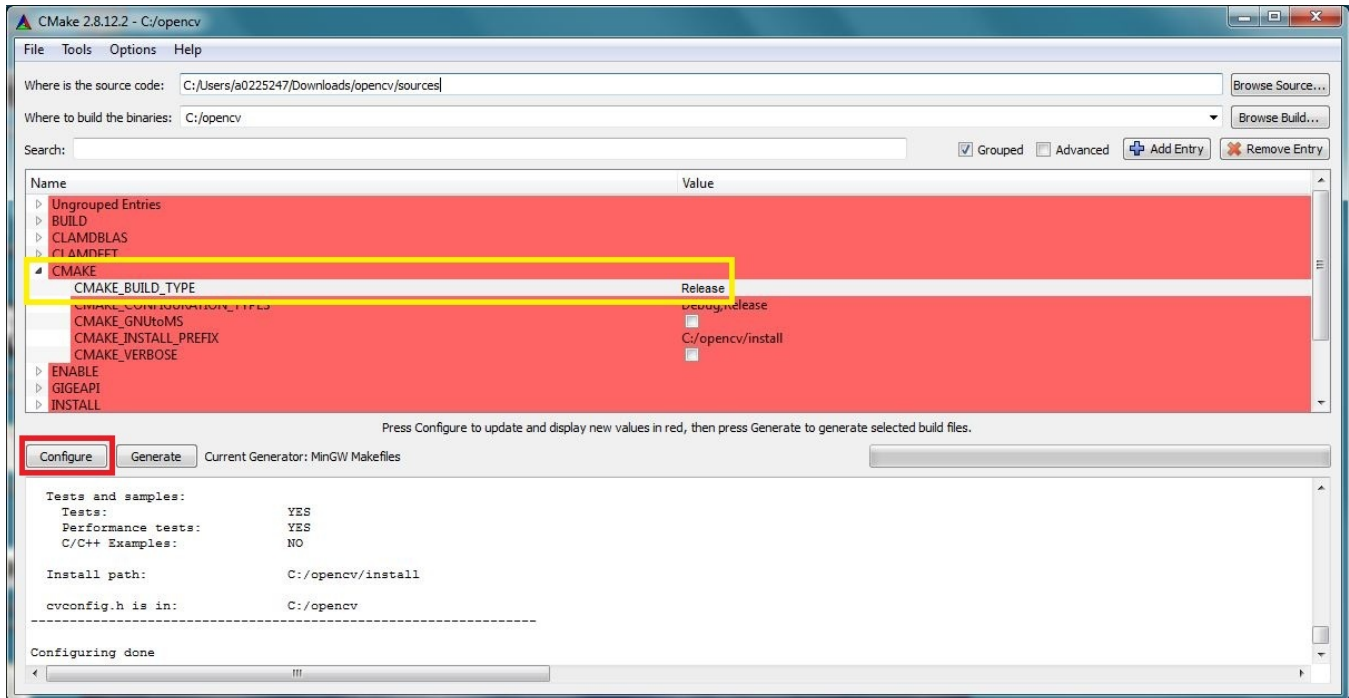

Figure 4-27. Cmake Build Options Input
17. Cmake will provide the user with a host of options for the OpenCV build. The options will appear in red before they are accepted by Cmake. Expand the group called CMAKE and find the variable named CMAKE_BUILD_TYPE, as shown in Figure 4-27. Populate the empty Value box next to CMAKE_BUILD_TYPE with "Release" then click the **Configure** button. All the options should turn white, and no errors should be reported in the lower status window.